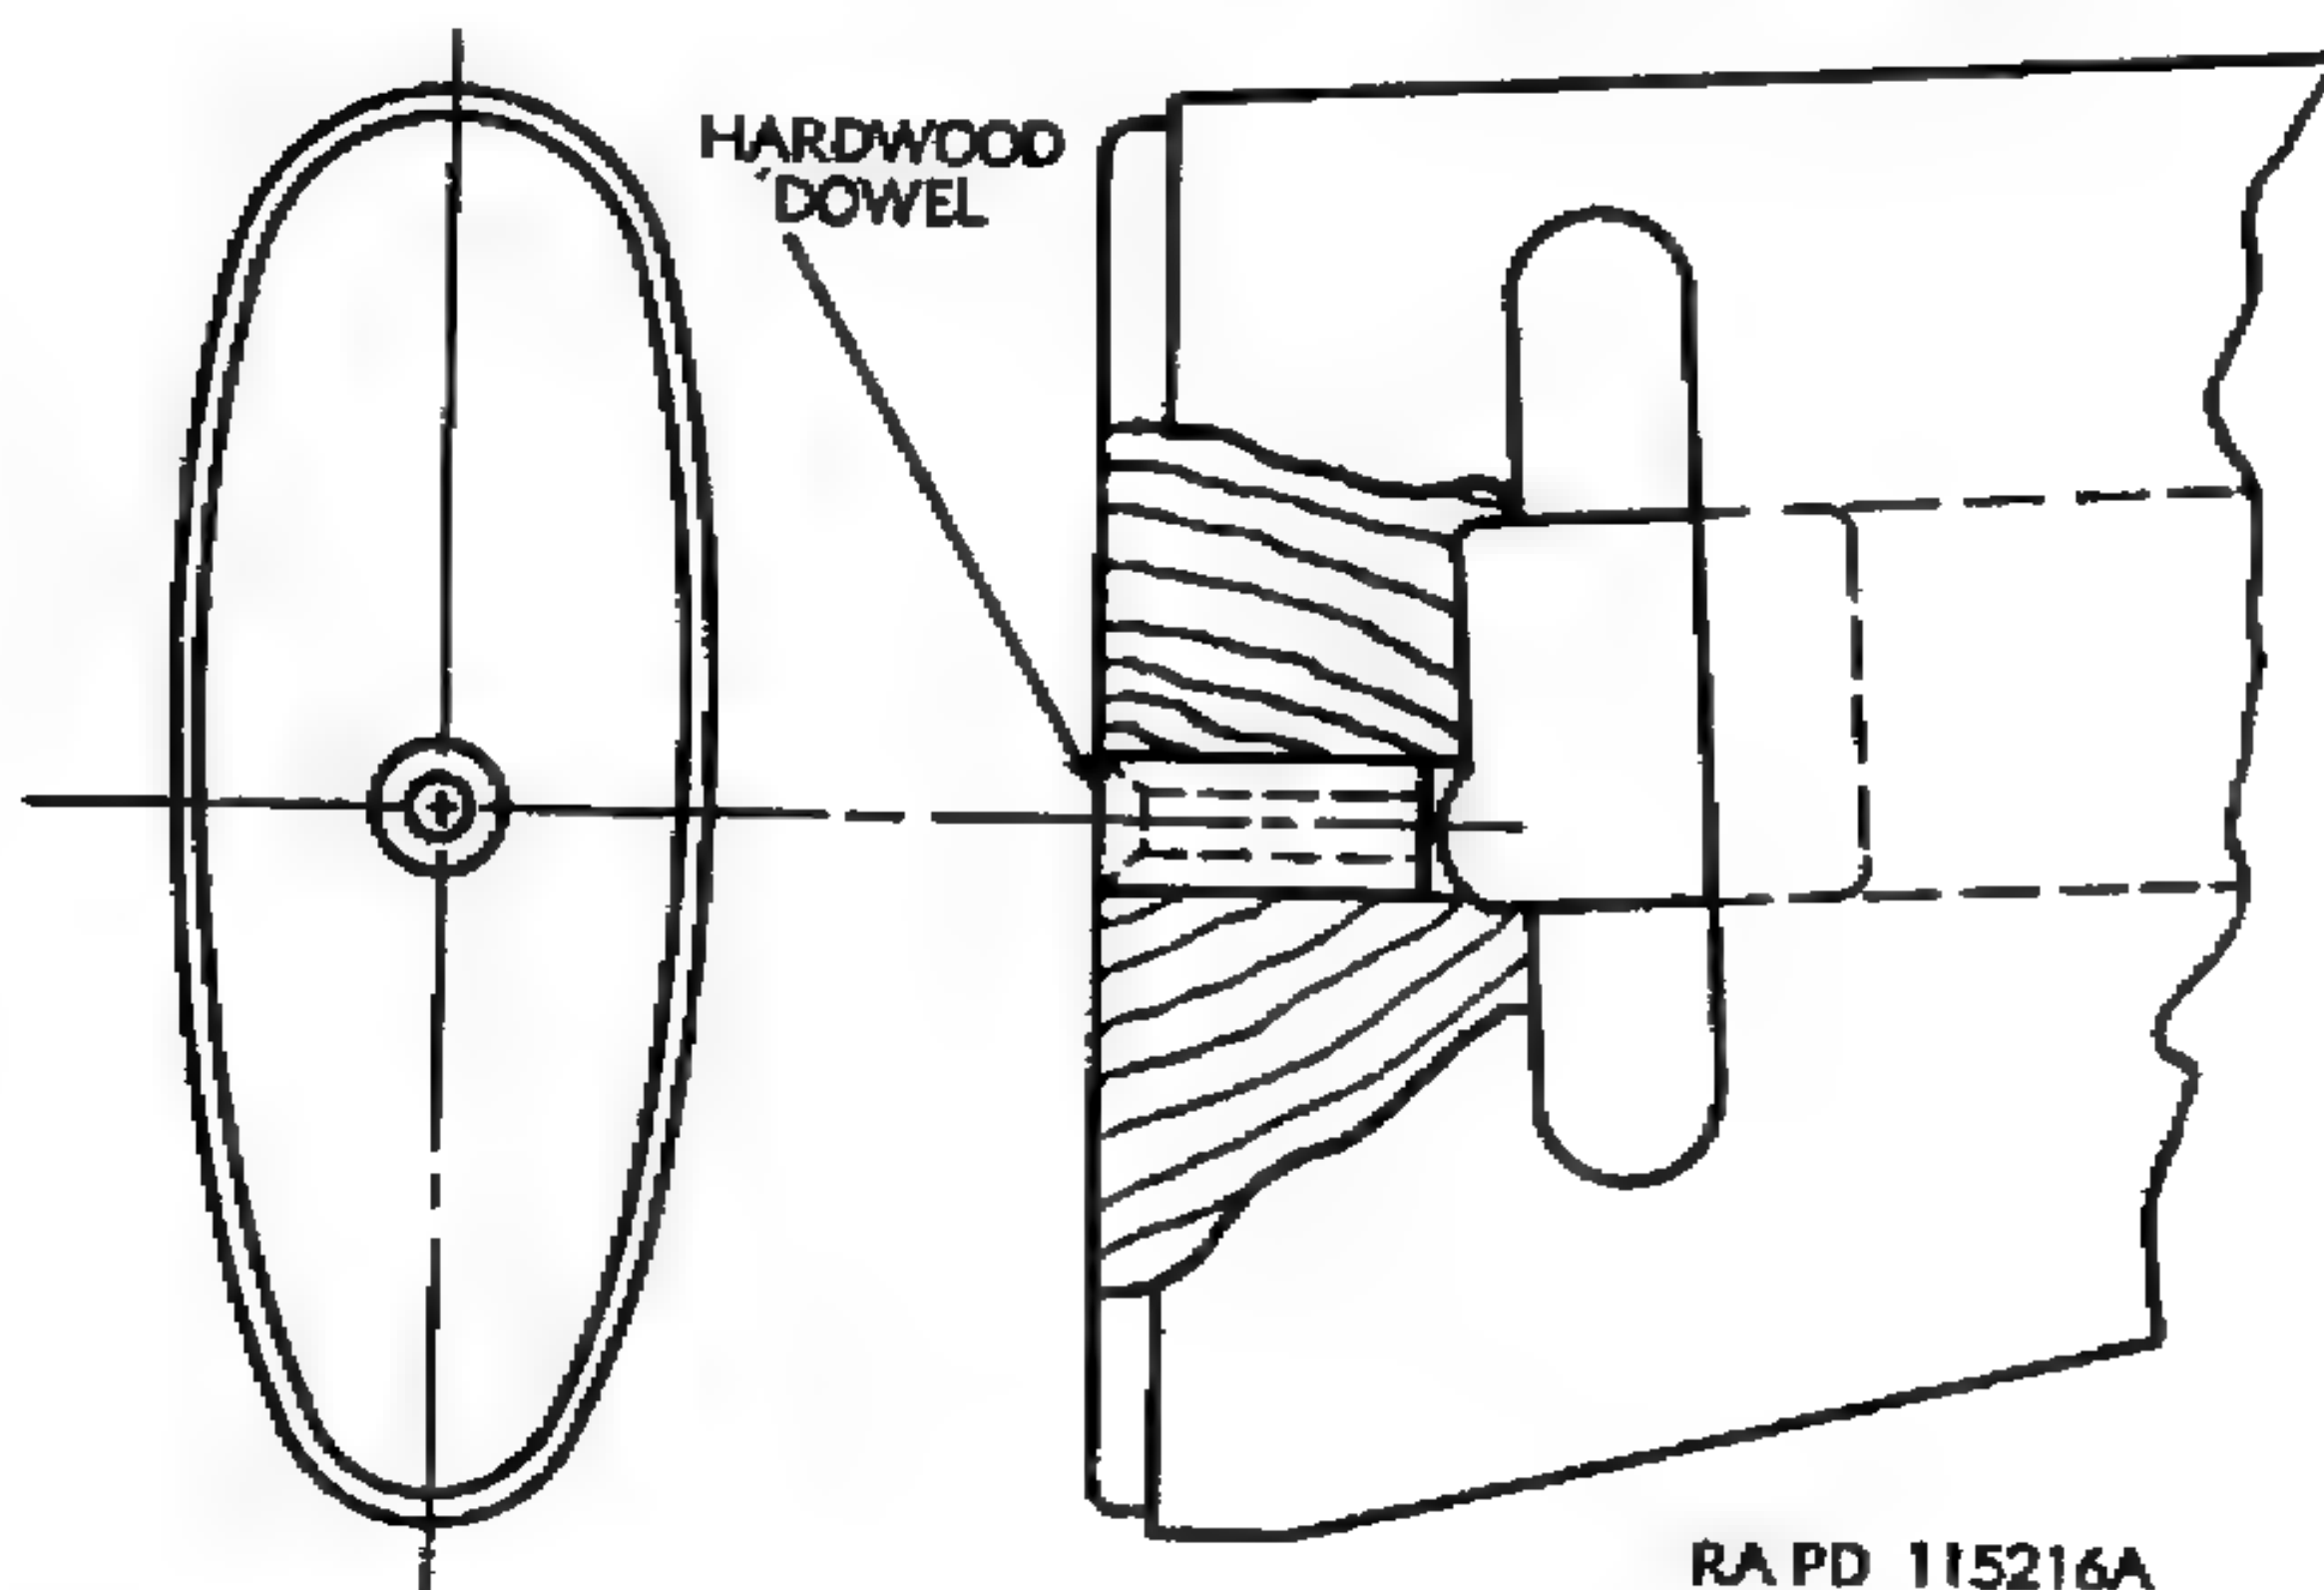

Figure 103. Repair for stripped screw hole.
- (3) *Stripped thread for butt plate screw.* If the butt plate screw cannot be tightened properly due to stripping of threads in the stock, bore a hole of approximately one-half inch diameter in the stock to a depth approximating the length of the screw and obtain a 1/2-inch hardwood plug (hickory or walnut) which is a drive fit in the stock. Apply glue (adhesive—JAN-A-397) to the hardwood plug and the bored hole in the stock. Drive the plug into the bored hole (fig. 103).